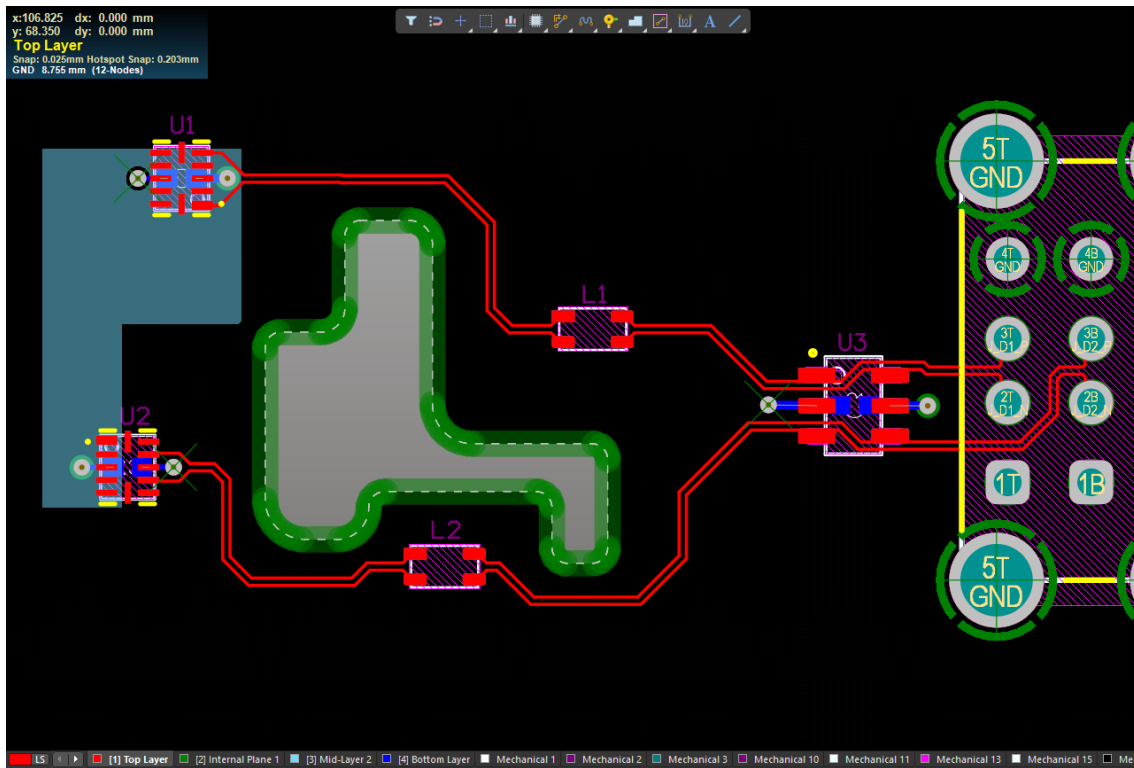

Figure 22. Final Routing
40. The final routing should look similar to Figure 22.